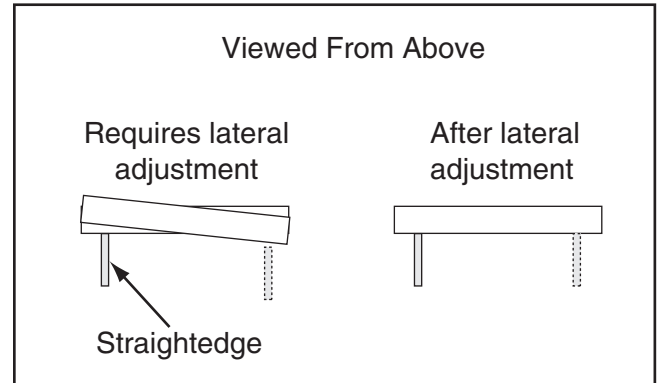

Figure 74. Before and after lateral wheel alignment (viewed from above).
- If wheels *do not align*, they require lateral adjustment (see **Figure 74**). Proceed to **Step 4**.
6. Rotate left and right adjustment bolts until lower wheel is coplanar with upper wheel, see **Figure 74**.